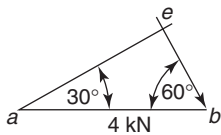
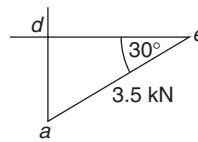

Figure 4.16
Figure 4.17
Consider joint *ABE*, as there are only two unknown forces here, namely the forces in the members *BE* and *EA*. Working clockwise around this joint, the vector diagram for this joint is shown in Figure 4.16. By measurement, $ae = 3.5$ kN and $be = 2.1$ kN.
Joint (2) cannot be considered next, as it has three unknown forces, namely H_2 , R_2 and the unknown member force *DE*. Hence, joint (1) must be considered next; it has two unknown forces, namely R_1 and the force in member *ED*. As the member *AE* and its direction can be obtained from Figure 4.16, it can be drawn to scale in Figure 4.17. By measurement, $de = 3$ kN.
As R_1 is vertical, then the vector *da* is vertical, hence, the position *d* can be found in the vector diagram of Figure 4.17, where $R_1 = da$ (pointing downwards). By measurement, $R_1 = 1.8$ kN.
this diagram is the sum of the vector diagrams of Figures 4.16 to 4.18.